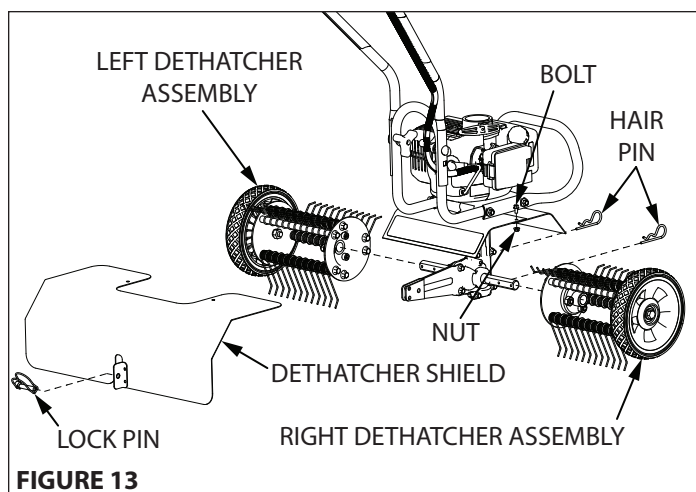

FIGURE 13
3. Slide dethatcher shield over the unit's tine shield from the rear of the unit and secure using bolts (176) and nuts (400020) from cultivator tine shield. **SEE FIGURES 13 & 14**
7. Slide the Left and Right Dethatcher Assemblies onto the tine shaft making sure the Right Assembly is installed on the right side and Left Assembly is installed on the left side as defined from the user's position. **SEE FIGURE 13**